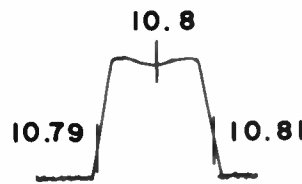

Figure 2
4. Detune T5 for maximum IF output display. See Fig 2.